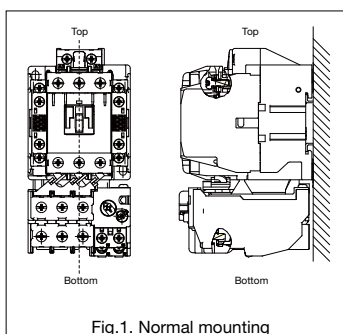
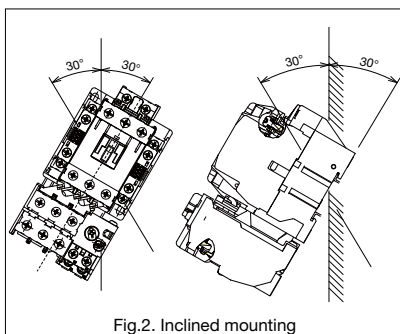
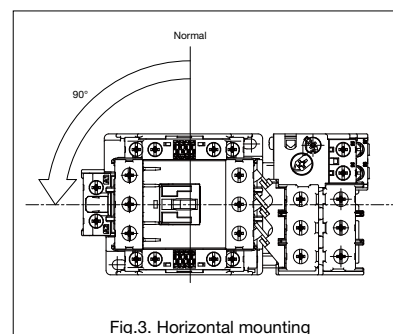

Fig.1. Normal mounting
Fig.2. Inclined mounting
Fig.3. Horizontal mounting
- (1) The device should be mounted in a dry location low in dust and vibration.
- (2) The normal mounting direction is the direction shown in Fig. 1 on a vertical surface, but mounting the device at an inclination angle of up to 30 degrees in either direction is allowed. (Fig. 2)
- (3) Mounting the device on a floor or ceiling is not allowed. (Mounting the device on a floor or ceiling may affect the continuity performance, operation performance, and durability of the contact.)
- (4) If mounting the device in a horizontal orientation cannot be avoided, be sure to rotate the device by 90 degrees in a counterclockwise direction from the normal mounting direction as shown in figure 3 when mounting it.